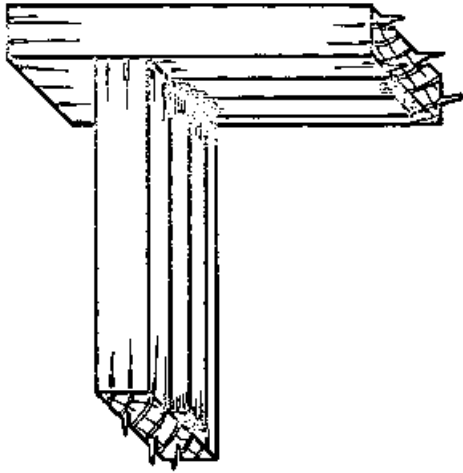
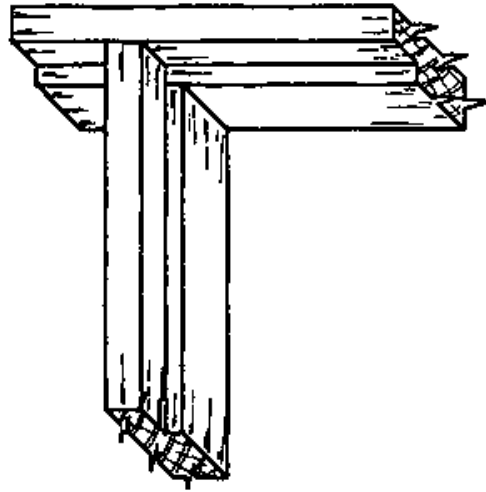

Fig. 4
Fig. 5
- BEAD OR REBATE TYPE DOOR FRAMES: Each of the above door frames can be made either with beads (Fig. 4) or a rebated construction (Fig. 5).